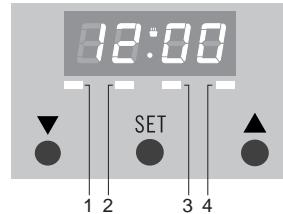

fig. 3
After the appliance has been connected, or when the power supply has been interrupted, the display will show '12.00'. LED 4 is blinking (see fig. 3). The time of day can be set.
- Press 'SET' until LED 1 blinks (see fig. 3).
- Press key ▼ or ▲ until the correct minute minder time has been reached. The set time will stay on the display. LED 1 lights up steadily (see fig. 3).
- Press 'SET' until LED 2 blinks (see fig. 3).
- Press 'SET' until LED 3 blinks (see fig. 3).
LEDs 2 and 3 light up steadily (see fig. 3). The time of day will be displayed. The oven gives a signal when the set time has been reached and automatically switches off. Press the key ▼ or ▲ to stop the signal.